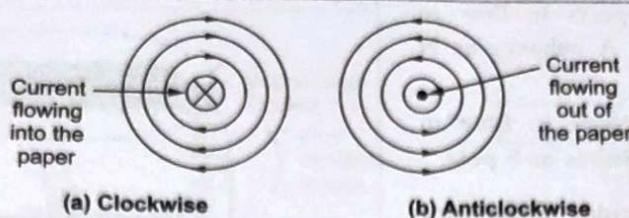

Fig. 1.8.6 Representation of direction of flux
- Conventionally it is shown as in the Fig. 1.8.6.